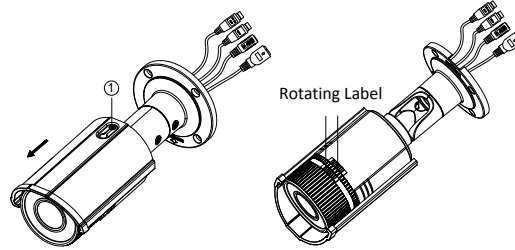

Figure 2-3 Assemble the Camera
6. Slide the sun shield according to the arrow direction as shown in Figure 2-3(left).
For water-proof, please align the rotating label on the front cover with that on the camera when you rotate the front cover clockwise. Refer to Figure 2-3(right).